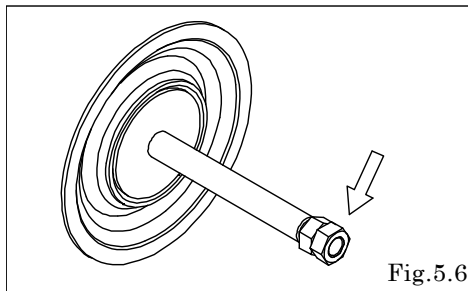

Fig.5.6
- Fix a double nut to one end of the center rod and take the diaphragm and center disk off the opposite end. [Fig.5.6] Be careful not to scratch or score the center rod.